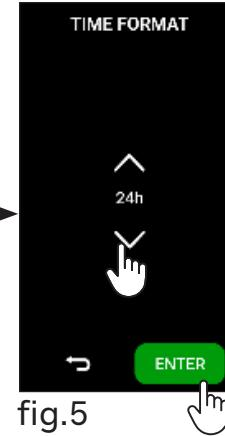

fig.5
Place the device on a mobile shelf with a sliding rail extraction system to allow filling of the deionized water tank, positioned on the top (fig.5).
- Set the time format and press ENTER (Fig.5);